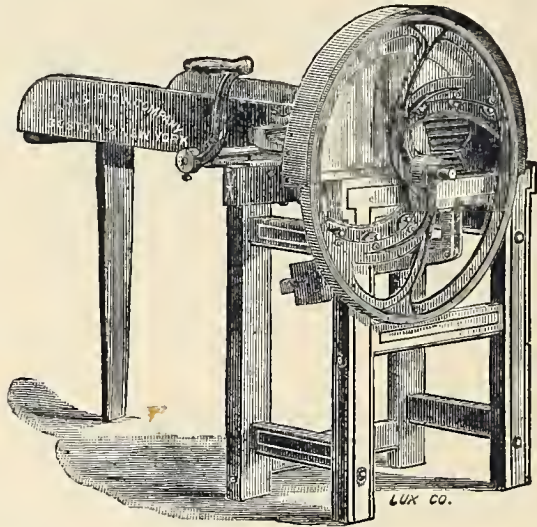
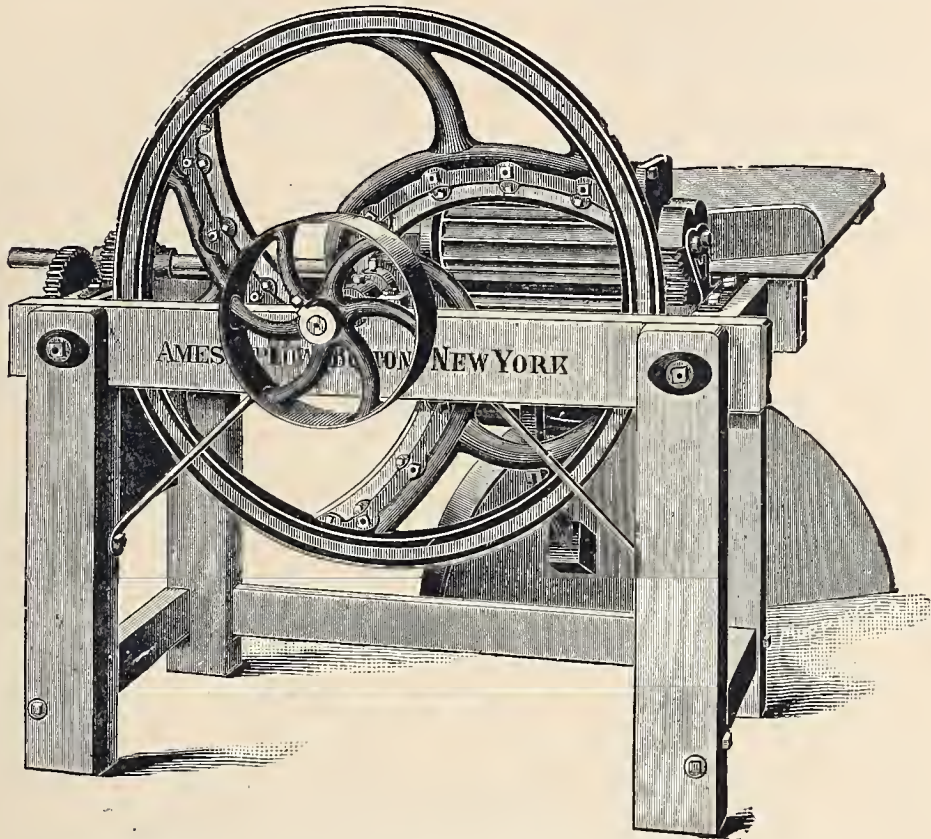

Fig. 435.—Doctor Bailey Ensilage-Cutter, 10 Inch.
Fig. 436. — Doctor Bailey Ensilage-Cutter, 16 Inch.
**The New Doctor Bailey Cutter**, for dry forage and ensilage, is represented by *Fig. 435* (ten inch) and *Fig. 436* (sixteen inch). It is vastly superior to any cutter in the market, not only for cutting ensilage crops, but also for hay and other
- 10-inch.**—For hand use; this *favorite* (see illustration *Fig. 435*) is as easy to operate as the 9-inch. One man can cut a large amount of fodder in a very short time; much used in large city stables as well as by farmers; can be arranged for operation by light power. Cuts four lengths,  $\frac{3}{8}$ , 1,  $1\frac{1}{2}$  and  $2\frac{3}{8}$  inches; weight 250 lbs.
**16-inch.**—This is the most salable size for ensilage; also gives perfect satisfaction on all kinds of dry fodder (see illustration *Fig. 436*). It has great capacity, and comparatively the power required is very small; can be successfully operated by two horse-power. This size is built even stronger than the 14-inch. Cuts ten lengths,  $\frac{3}{8}$ ,  $\frac{1}{2}$ ,  $\frac{3}{4}$ ,  $\frac{7}{8}$ , 1,  $1\frac{1}{4}$ ,  $1\frac{1}{2}$ ,  $1\frac{3}{4}$ , 2 and  $2\frac{3}{4}$  inches; weight, 750 lbs. Capacity, six to seven tons of green fodder,  $\frac{3}{8}$  inch long, per hour.